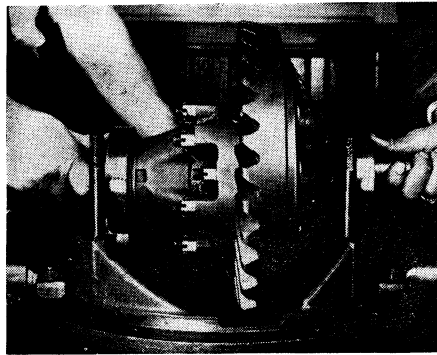

Fig. 74 Lifting out differential and gear assembly
5. Lift out carrier and gear assembly, Fig. 74.